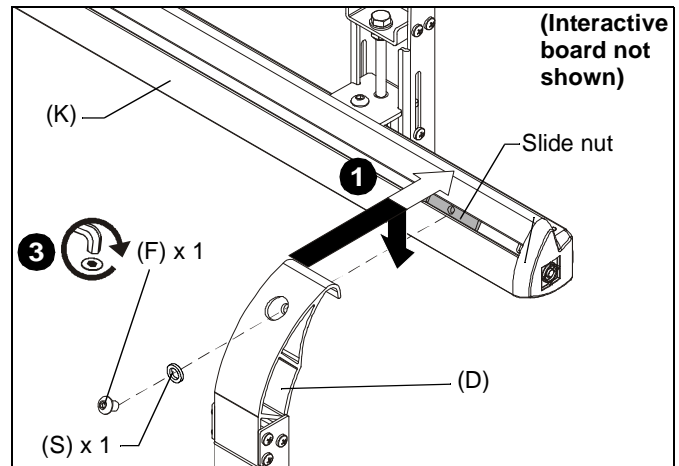

Figure 7
1. Hook whiteboard with attached uprights onto the wall assembly (K). (See Figure 7)
2. Move the slide nut so that it is aligned with the upright (D). (See Figure 7)
3. Fasten upright in place using one 1/4-20 x 3/8" button head cap screw (F) and one 1/16" nylon spacer (S) into slide nut. (See Figure 7)